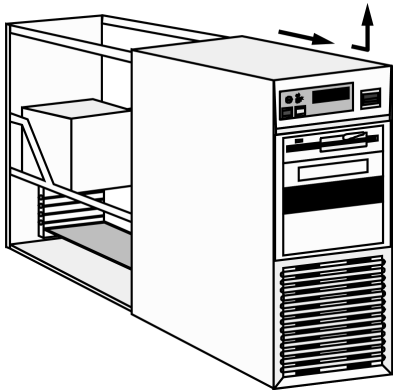

Figure 3: Removing a Typical Computer's Cover
2. Remove your computer's cover, following the directions provided by your computer's manufacturer. Typically, this involves loosening or removing several screws on the back panel of your computer and sliding off the cover. See Figure 3 for an example.
2. If you haven't already removed the cover from your computer, remove it now, following the directions provided by your computer's manufacturer. Typically, this involves loosening or removing several screws on the back panel of your computer and sliding off the cover. See Figure 3 for details.